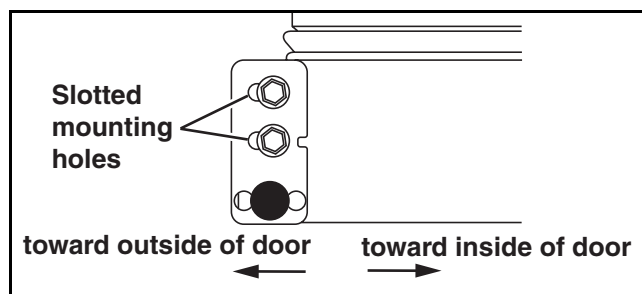

Figure 31
- Your plate has slotted mounting holes (**Figure 31**). Loosen but do not remove the two hinge plate screws.